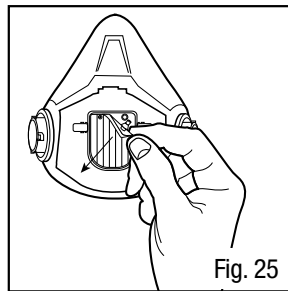

Fig. 25
2. Remove 3M™ Exhalation Valve 6583 from valve seat by grasping the valve and pulling each valve stem out from the valve seat (Fig. 25).